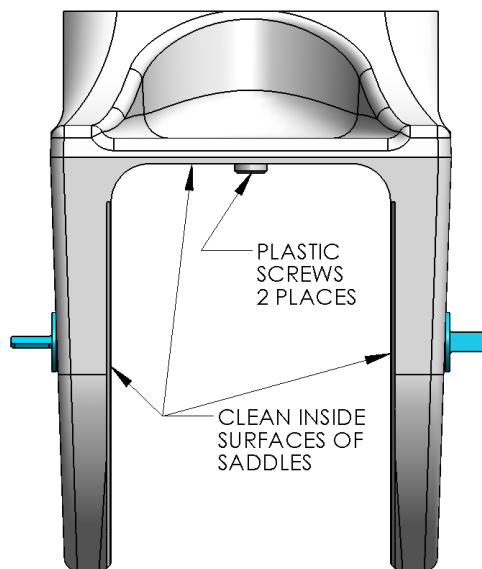

FIGURE 11 - SADDLE CLEANING
- 2) Check that each saddle contains 2 plastic screws which will ensure an adhesive gap of .080" (2 mm) on top surface of hull as shown in Figure 11.